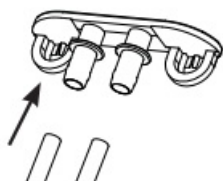

Figure 10
12. Remove the plugs and allow the water to completely drain. See figure 10.